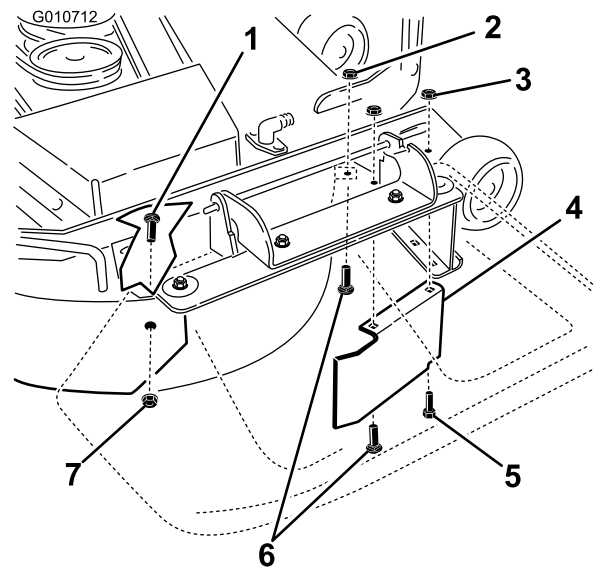

Figure 33
9. Remove the carriage bolt (5/16 x 3/4 inch) and locknut (5/16 inch) on the rear wall of the mower deck securing the baffle to the deck (Figure 33).
10. Locate the baffle guard at the front edge of the side discharge opening (Figure 33).
11. Remove the fasteners securing the baffle guard and the right baffle to the mower deck (Figure 33).